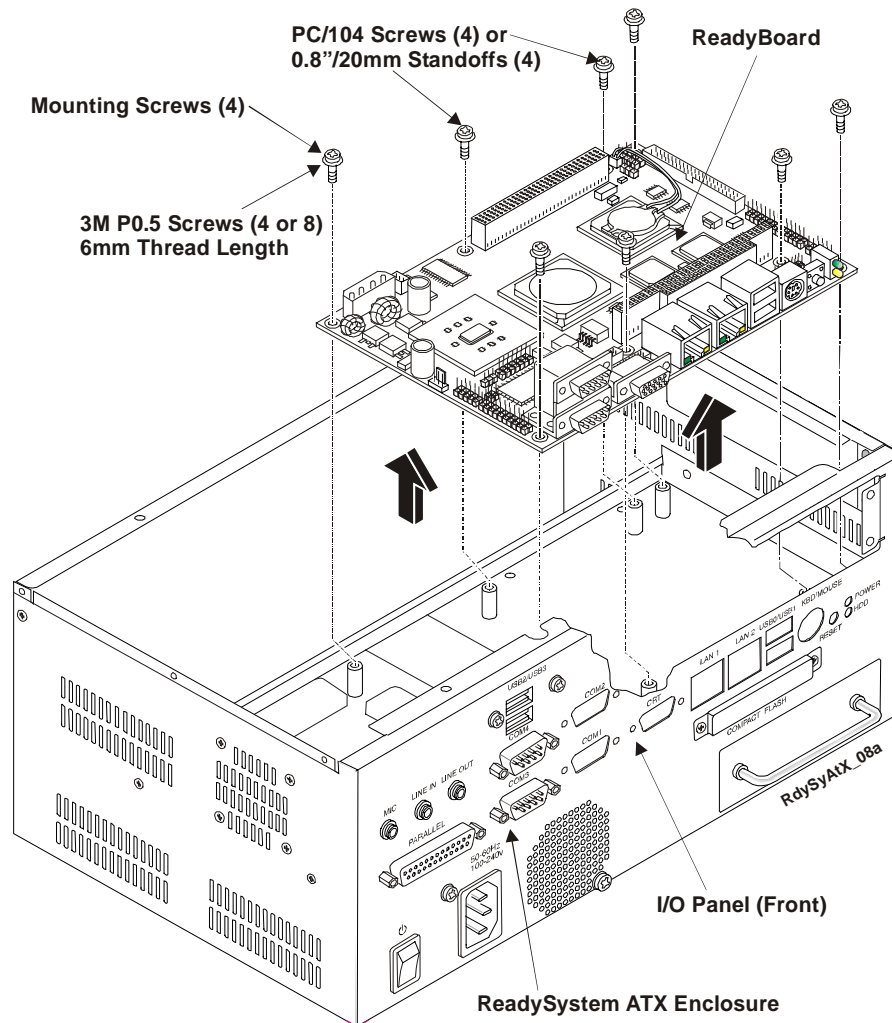

Figure 2-5. Removing ReadyBoard from Enclosure
- Remove the four to eight screws holding the ReadyBoard to the inside of the enclosure. See Figure 2-5.
- Once you have removed all of the screws (and PC/104 boards) slowly work the ReadyBoard out of the enclosure until it is safely clear and place it on a protective surface. See Figure 2-5.